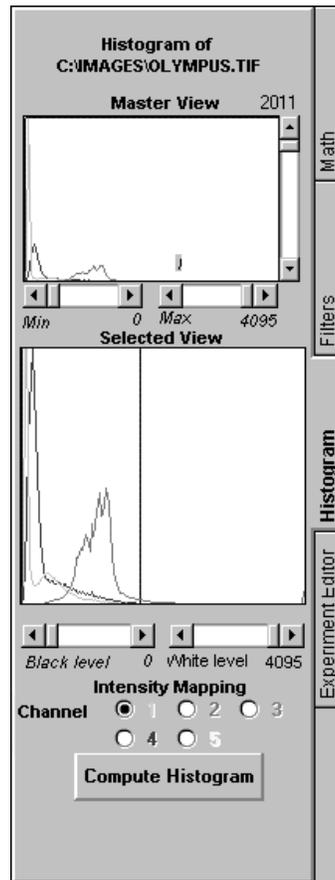

Fig. 2-89 Histogram
- Click the <Compute Histogram> button. A histogram as shown in Fig. 2-89 appears.